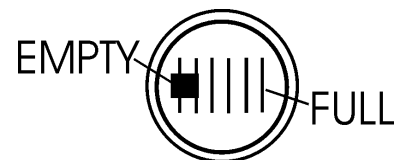

Figure 10. Fuel Gauge
3. Read the fuel gauge located on top of the fuel tank (Figure 10) to determine if the fuel level is low. If fuel is low, replenish with **clean unleaded fuel**.